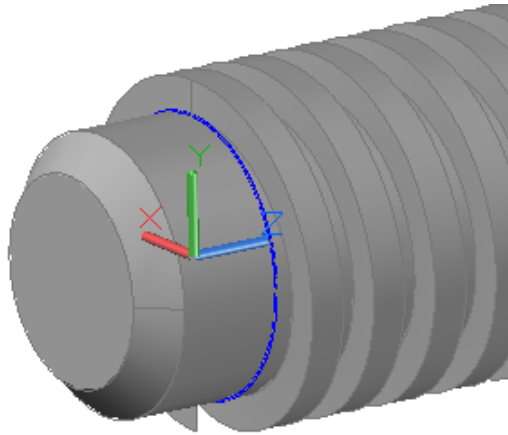

Figure Step 22
Step 22 Chamfer the end of the shaft 0.125 inches at 45 degrees. (Figure Step 22)